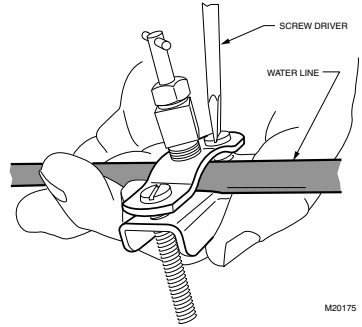

Fig. 8. Installing the saddle valve.
2. Use the self-piercing saddle valve (included) to tap into the water supply line at the location selected. Turn the handle on the top of the saddle valve to the right (clockwise) until the needle pierces the water supply line. Leave the needle in this position until the humidifier is fully installed to prevent leaking (even though the water supply is turned off, there can still be water in the line that will leak as soon as the needle is backed out). See Fig. 8. If tapping into galvanized pipe, drain the line and pre-drill 3/16 in. tap for the saddle valve.